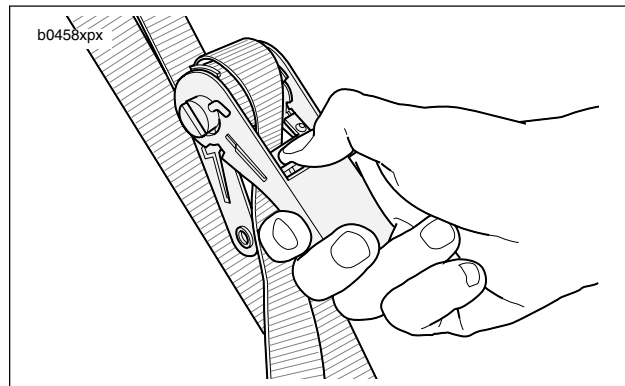

Figure 1-18. Opening Ratchet Lever
- b. See Figure 1-18. Start with the right side crating strap. Depress (in opposite direction of spool) and hold down the spring-loaded ratchet release.